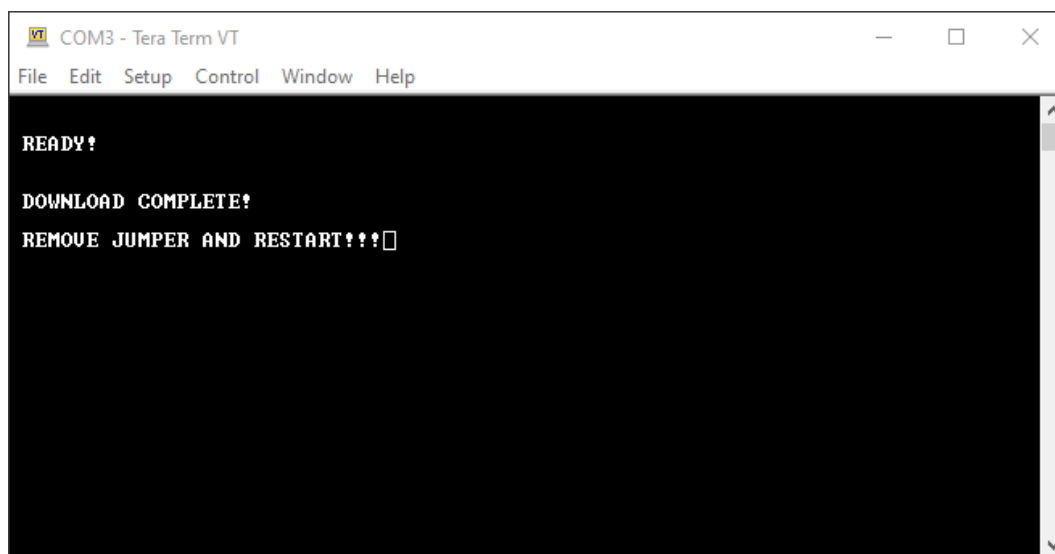

Figure 15. Console Screen – Software Image Download has Finished
7. When the software image download has finished, D3 remains illuminated and a **DOWNLOAD COMPLETE!** message is printed in the console screen (Figure 15). The USB cable must be unplugged and the jumper wire removed. Next time the MCU powers up, it copies the new software image, and boots from it. This completes the software image update process. If the red LED D4 is illuminated, either the bootloader becomes unresponsive or the image transfer sticks conveying that there is something wrong with the image update process. Unplug the USB cable and restart the process from Step 1.